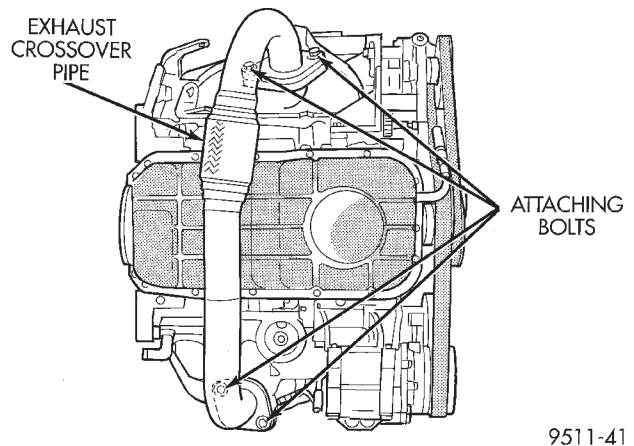

Fig. 30 Cross-Under Pipe Attaching Bolts
- (1) Raise vehicle and disconnect exhaust pipe from rear (cowl side) exhaust manifold at flex-joint. It may be necessary to remove the entire exhaust system. Refer to procedure outlined in this section.
- (2) Remove bolts attaching cross-under pipe to manifolds (Fig. 30). Remove assembly.